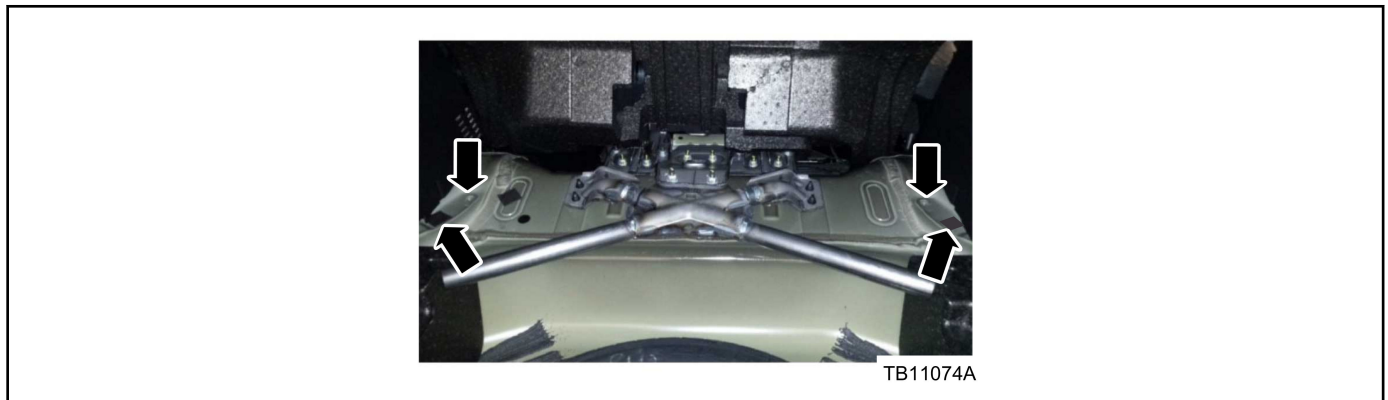

Figure 6 - Article 17-0044
- g. Rear load floor bolt holes (may require removal of hardware and/or electronics). Under the rear load floor there are 4 threaded bolt holes (2 on the left side and 2 on the right). On police units with no third row seat the front bolt hole is used to secure the load floor. The rear load floor bolt hole on each side should be sealed with mastic patch. (Figure 6)